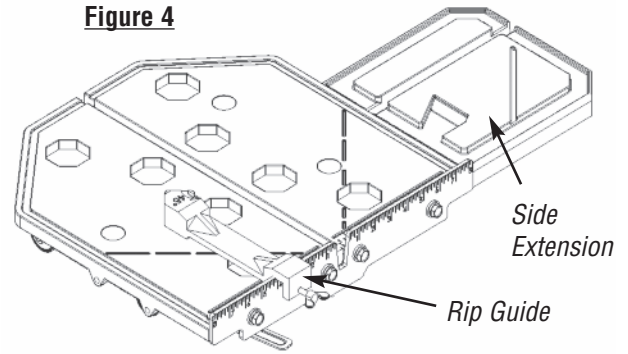

Figure 4
1. The ruler guide has inches marked along the top to allow convenient measurements and to promote precision cuts. See Figure 4